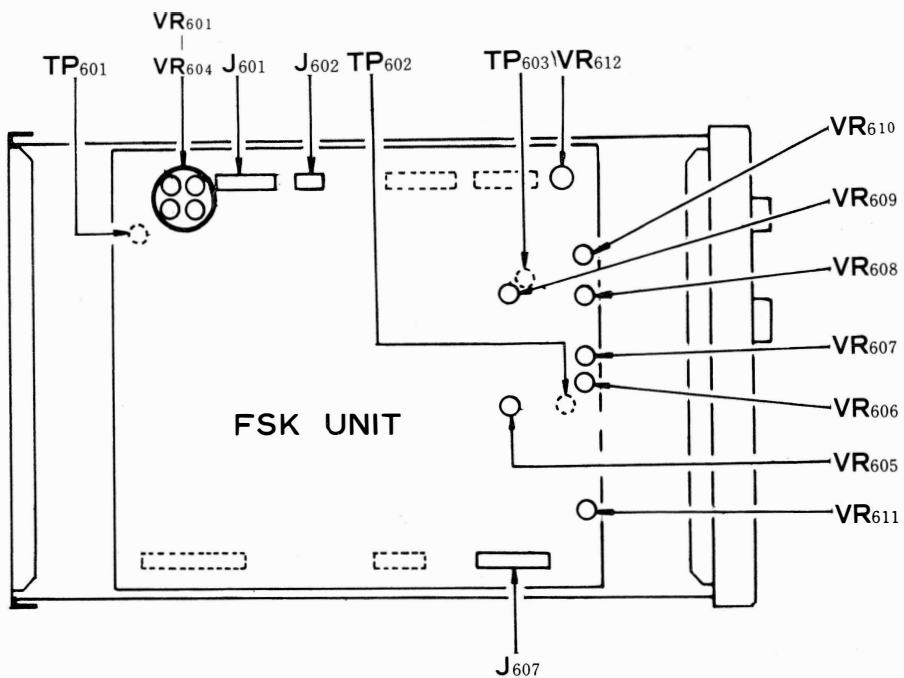
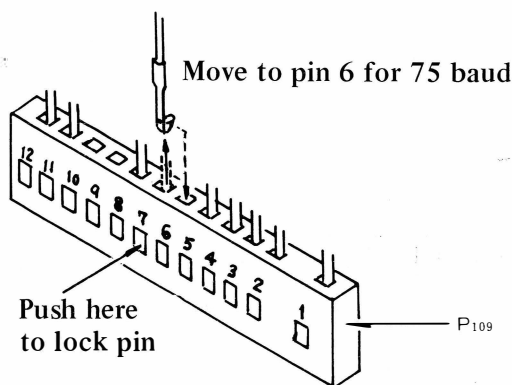

Fig. 15
Fig. 16
- (1) Remove the case of the YR-901.
- (2) Refer to Figure 15, and locate P109, marked F. Remove P109 from its jack.
- (3) Refer to Figure 16, and locate the 45.5 baud line (white/yellow, connected to pin 8). Also locate the 50 baud line (white/green, connected to pin 7). These may be moved to pin 9 for 57 baud and pin 6 for 75 baud operation, respectively. To remove the pins from the connector, poke a narrow object into the hole corresponding to the desired pin, in order to free the locking head of the pin.
- (4) Normally, no alignment will be required. If the baud rate is seriously out of alignment, though, the following procedure may be performed.
- (a) Locate VR601–VR604, marked G in Figure 15. Connect a frequency counter to TP601, and set the TTY switch to 45. Adjust VR601 for a reading of 728 Hz on the counter.